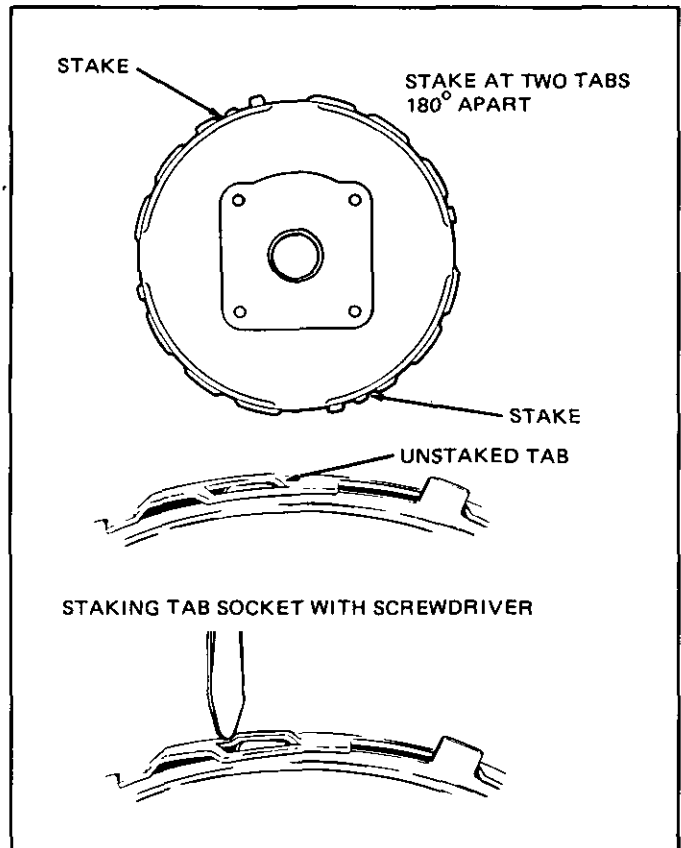

Figure 6 Staking Procedure
- Stake housing as shown in Figure 6 after locking.